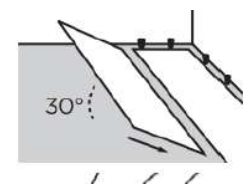

Figure 3
- Position the first plank of the second row by angling it up slightly, pushing forward and interlocking the side tongue (**Figure 3**). Slide the plank to the left to align the edges of the end joint.